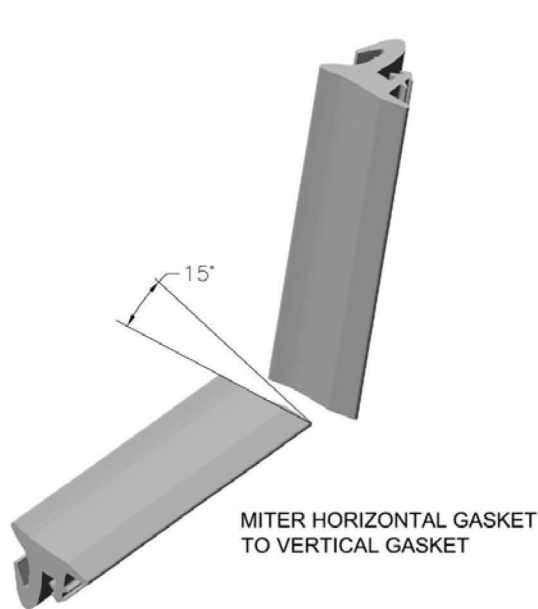

Fig. 12A
3. Apply sealant into gasket reglets of the horizontals and verticals and seal the edges of the water deflectors only on the flat side of the horizontal. **DO NOT** allow any of the sealant to get into the pocket of the verticals in order to allow the system to drain. Install interior glazing gasket first. Vertical gaskets runs through Horizontal gaskets. Start at corners and work toward center. Set the corners of the glazing gaskets in sealant and join corners tightly to avoid leakage. See Figures 12A and 12B.